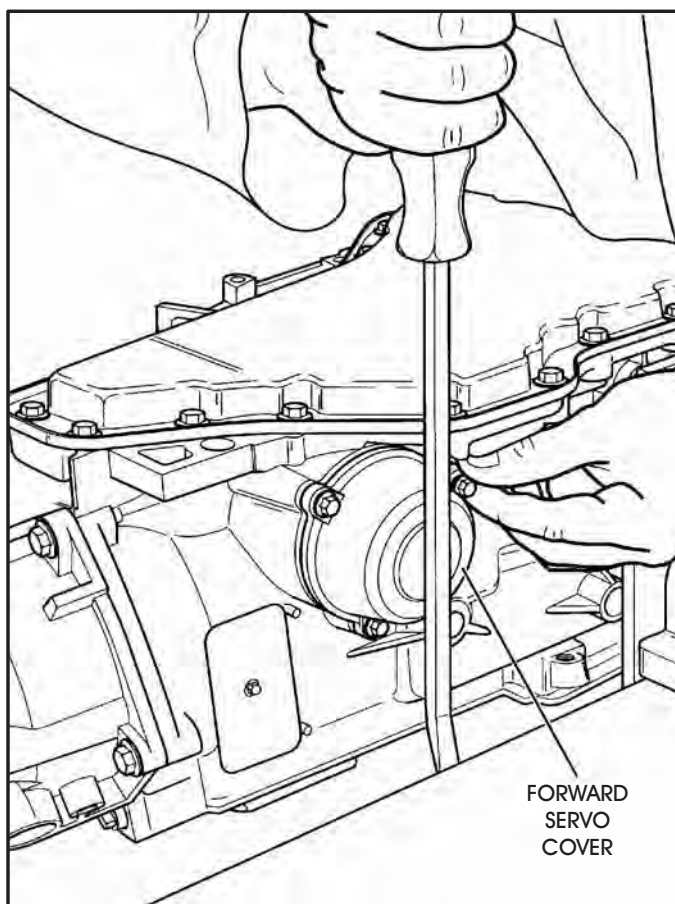

Figure 221
5. Install the forward servo complete in transaxle case and use the snap ring screwdriver with its end prying against edge of bench to compress the servo cover, as shown in Figure 221.
6. With the cover seated against the case use your free hand to thread the servo cover bolts in, as shown in Figure 221.